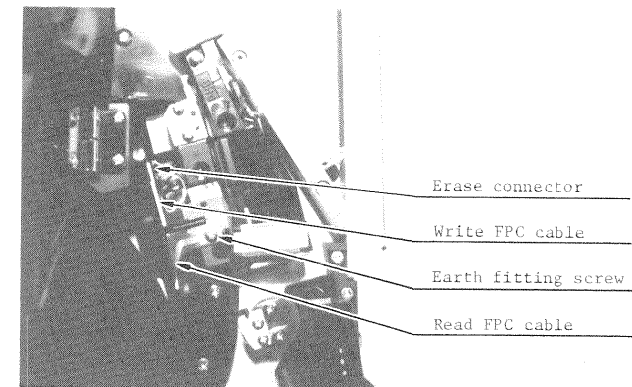

Fig. 1
1. Open the column cover and threading cover, detach the ground terminal screw of the FPC cable, and remove the erase connector (CNJ03). (See Fig. 1.)